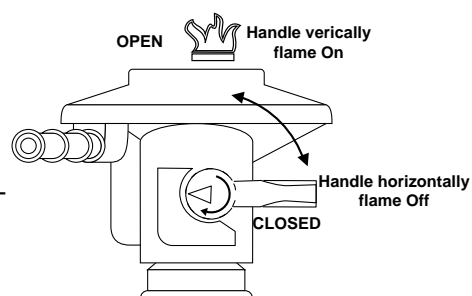

fig.3
- The Quick-on regulator handle is in the closed position (fig. 3).
To shut off the gas supply, reverse above procedure; an arrow engraved on the handle indicates the closing direction (fig.3).